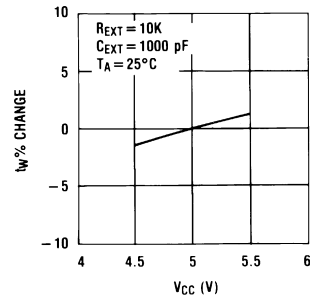

FIGURE 6.
8. Output pulse width variation versus V_{CC} and temperatures: *Figure 6* depicts the relationship between pulse width variation versus V_{CC} , and *Figure 7* depicts pulse width variation versus temperatures.